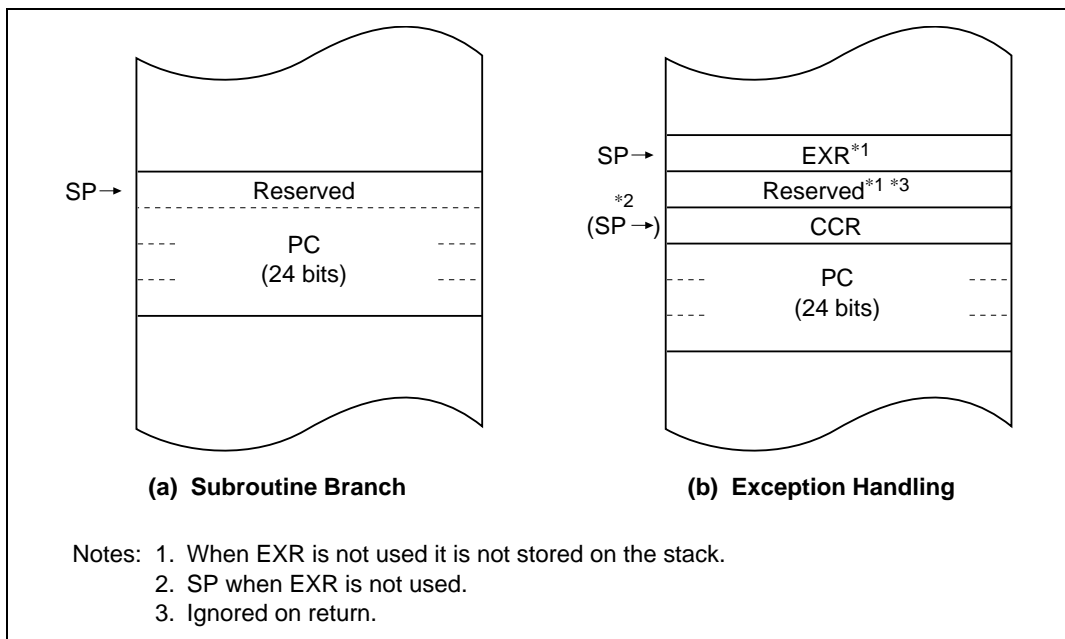

Figure 1.5 Stack Structure in Advanced Mode
Stack Structure: In advanced mode, when the program counter (PC) is pushed onto the stack in a subroutine call, and the PC, condition-code register (CCR), and extended control register (EXR) are pushed onto the stack in exception handling, they are stored as shown in figure 1.5. When EXR is invalid, it is not pushed onto the stack. For details, see the relevant hardware manual.